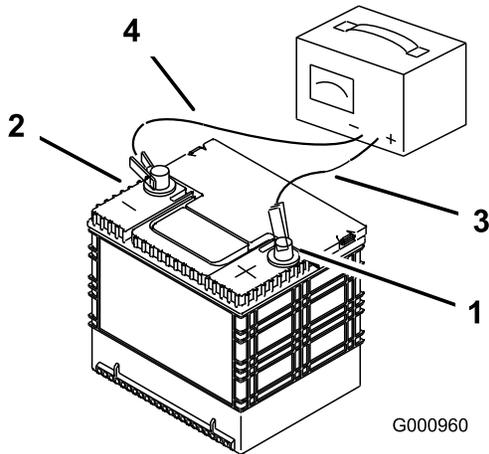

Figure 70
3. When the battery is fully charged, unplug the charger from the electrical outlet, then disconnect the charger leads from the battery posts (Figure 70).